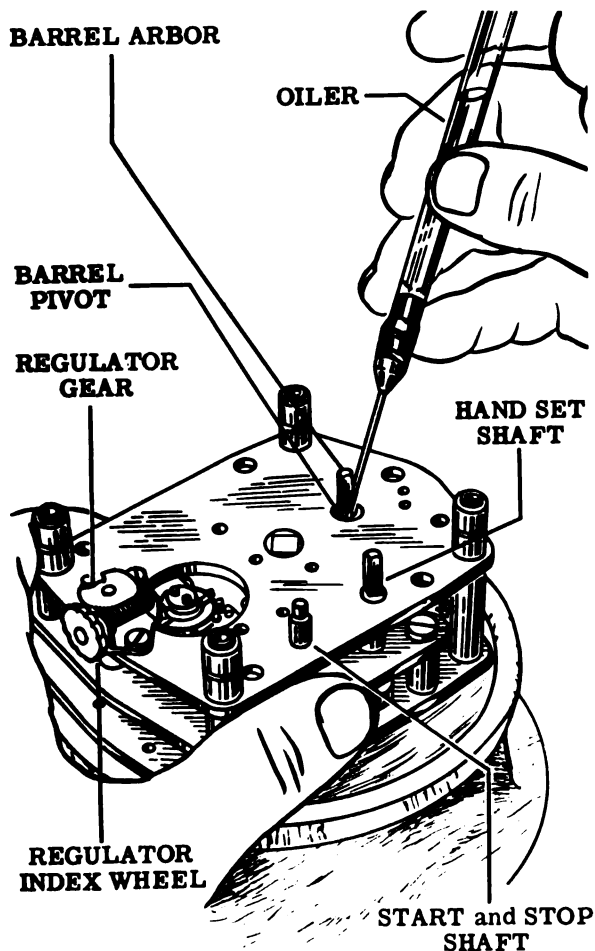

Figure 103—Boat and Deck Clock Movement
20. Oil the upper barrel pivot in the back plate. See Figs. 103 and 104 and the Control Manual.